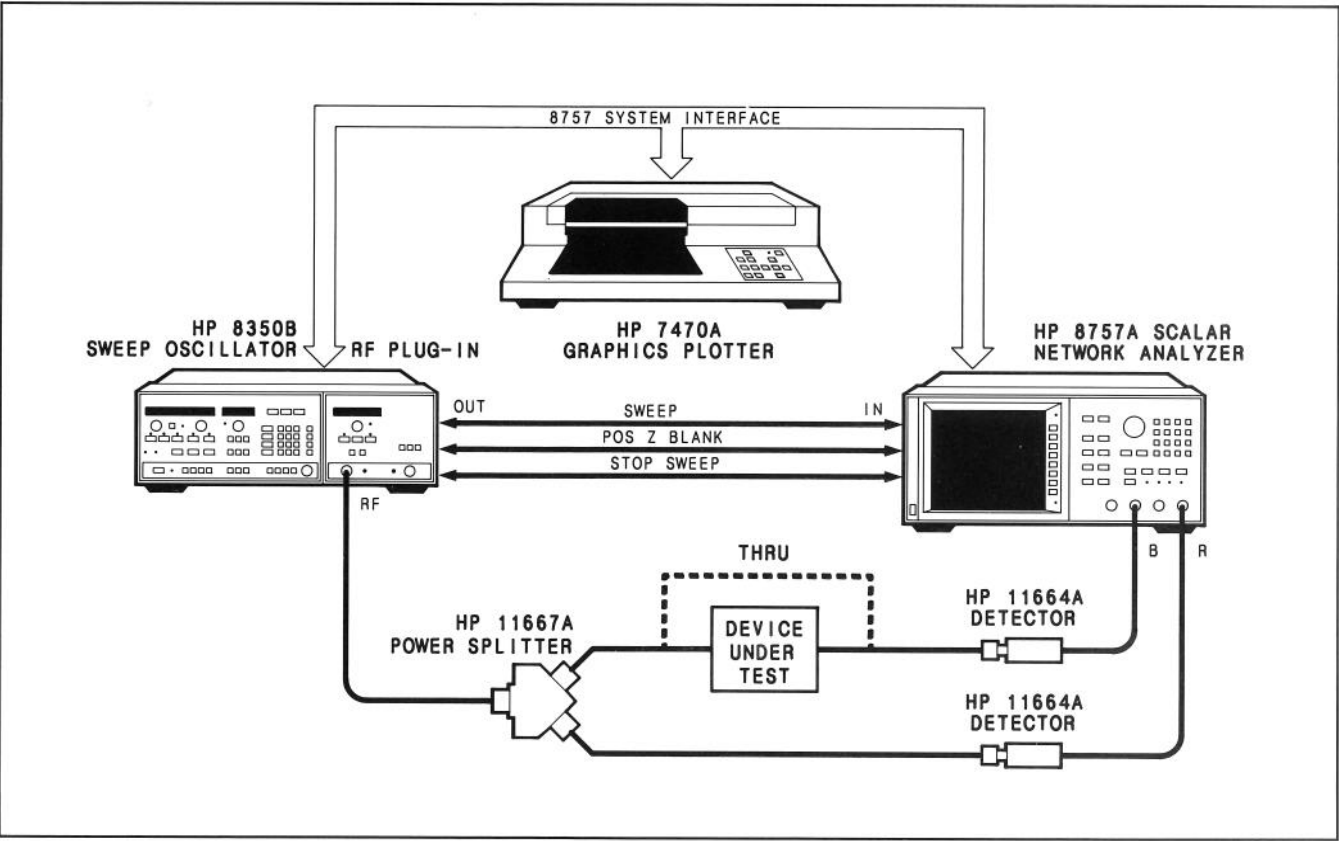

Figure 23. Transmission-Only Ratio Measurement Setup
The setup shown in Figure 23 adds a power splitter and a detector to obtain power for the R (reference) input. Select [MEAS][B/R] to view the response. This ratio technique provides an improvement in effective source match characteristics of the setup by removing stimulus power variations common to both the reference (R) and test (B) inputs. This technique is especially appropriate for measurement of low insertion loss devices and for devices with poor input match. Source match can also be improved by leveling the source externally or by isolating the source with an attenuator or directional bridge.
Connect instruments as shown in Figure 23.
Connect ratio setup shown in Figure 23.